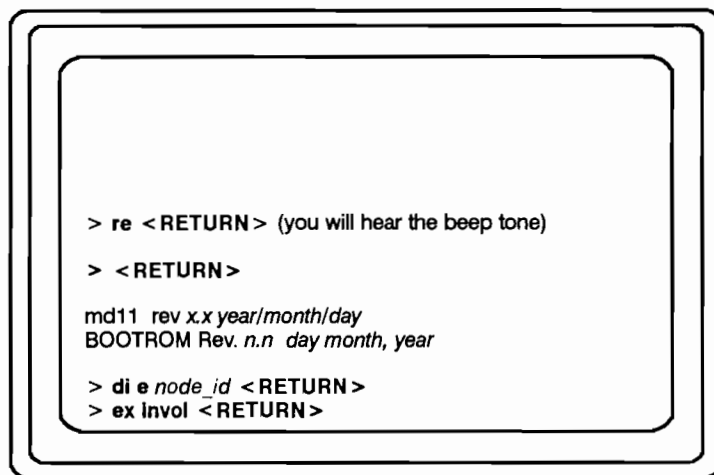

Figure 6-16. Running *invol* from the Mnemonic Debugger
1. Enter the command shown in Figure 6-16 to invoke the **invol** utility from the Mnemonic Debugger (MD) environment.